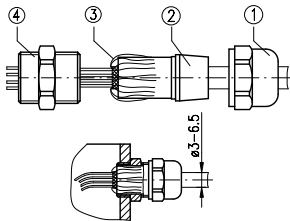

Fig. 2: Cable connection PG7
- Prepare wire accord. to fig. 2